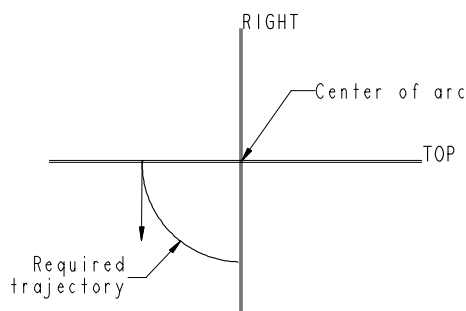

Figure 7-35 The sketch of required trajectory
2. Draw an arc such that the center of the arc lies at the intersection of the two perpendicular planes namely **TOP** and **RIGHT** as shown in Figure 7-35. As you specify the center of the arc, the cursor snaps to the point of intersection of the two planes. Now, draw the arc and exit this tool.